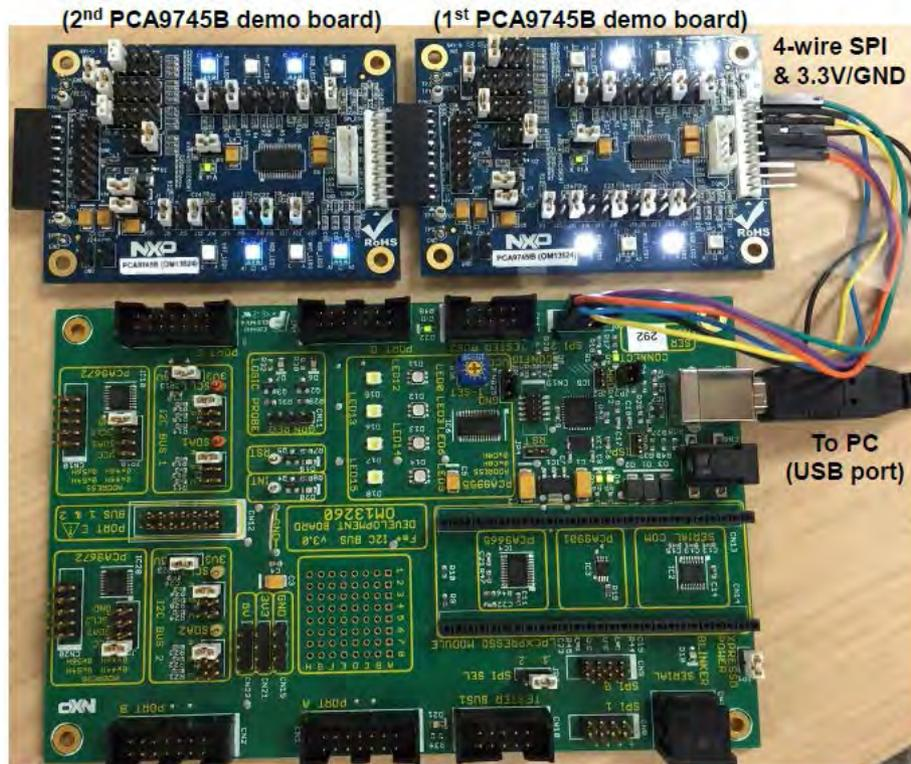

Fig 10. Two PCA9745B demo boards connecting to the Fm+ development board
- The Fm+ development board as SPI master drives two PCA9745B demo boards in daisy-chain as shown in the Fig 10. After open the “SPI daisy chain demo with two PCA9745B devices” text file, the “NXP Fm+ Board GUI” in Expert mode screen will be displayed all messages, then click the ‘Send All’ button, all the valid messages on the screen will be sent in the order of the row number (Msg #). The action will be performed one time.